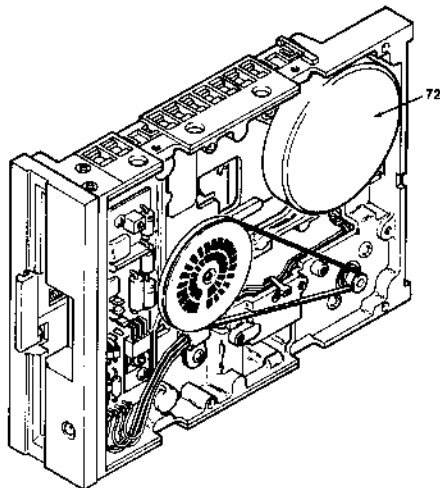
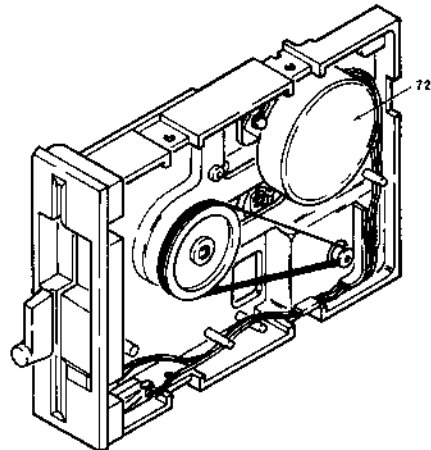

Fig. 3-10. Head alignment, Models 1540 and 1541.
Fig. 3-11. Head alignment, Model 1542.
12. Loosen but do not remove the two screws that secure the stepping motor (Item 72). (See Fig. 3-10 for Models 1540 and 1541 or Fig. 3-11 for Model 1542.)